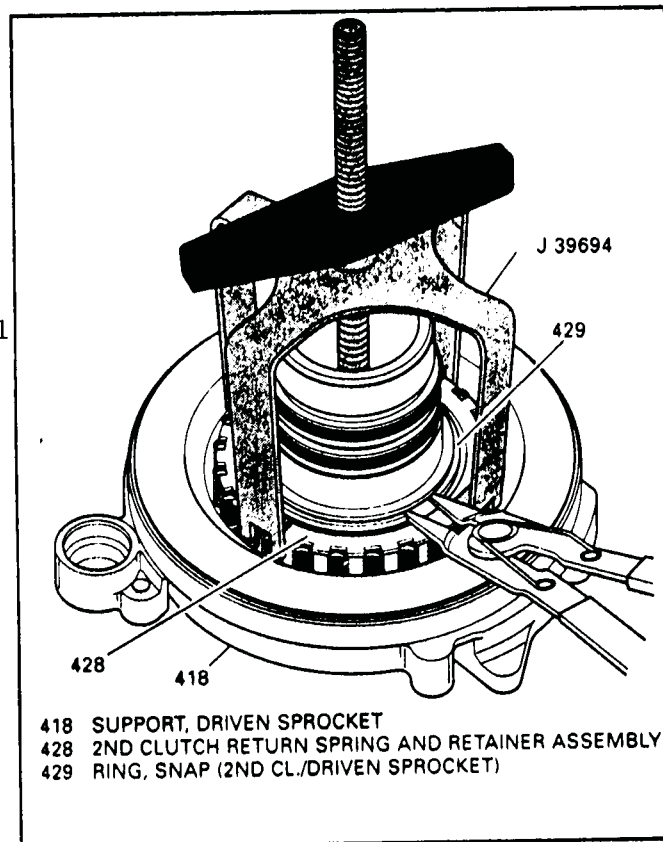

Figure 70
6. Compress 2nd clutch spring and retainer using tool J-39694, as shown in Figure 70.
7. Install snap ring as shown in Figure 70.